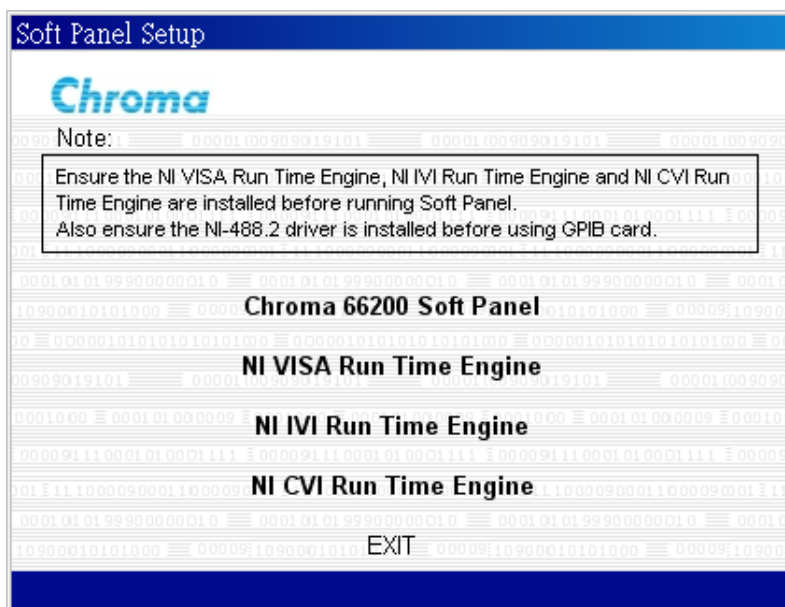

Figure 2-2 Soft Panel Setup Screen
1. After placing the CD in CD drive, the program “Setup.exe” will execute automatically and prompt a Soft Panel Setup screen as Figure 2-2 shows. If it does not run automatically, double-click “Setup.exe” to execute it manually.
1. Click the **NI VISA Run Time Engine** in Figure 2-2 will prompt the following screen to install the NI VISA Run Time Engine driver and then click **Setup** to continue.
8. Click the **NI IVI Run Time Engine** in Figure 2-2 will prompt the following screen to install the NI IVI Run Time Engine driver and then click **Next** to continue.
- Click the **NI CVI Run Time Engine** in Figure 2-2 will prompt the following screen to install the NI CVI Run Time Engine driver and then click **Next** to continue.